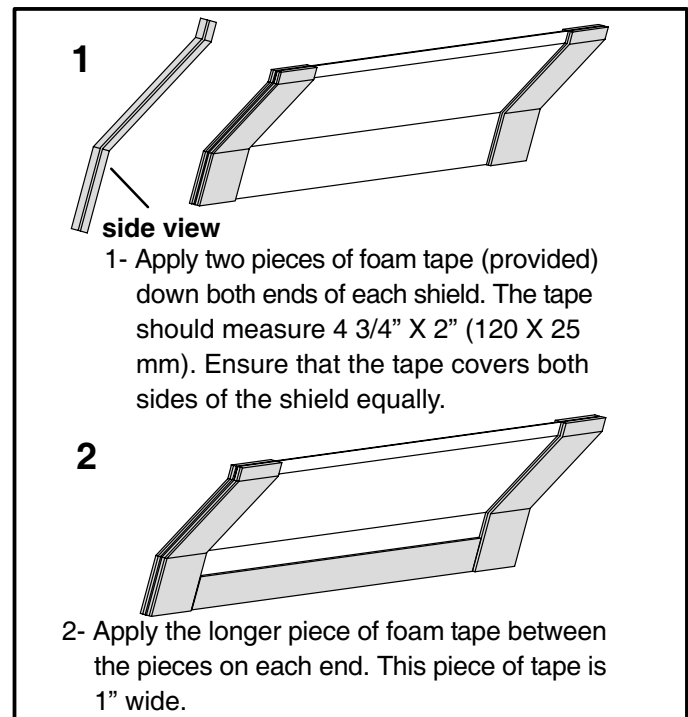

FIGURE 14
- 5- Install downflow drip shield firmly in place on inside of coil slab from under drain pan. See figures 14 and 15.